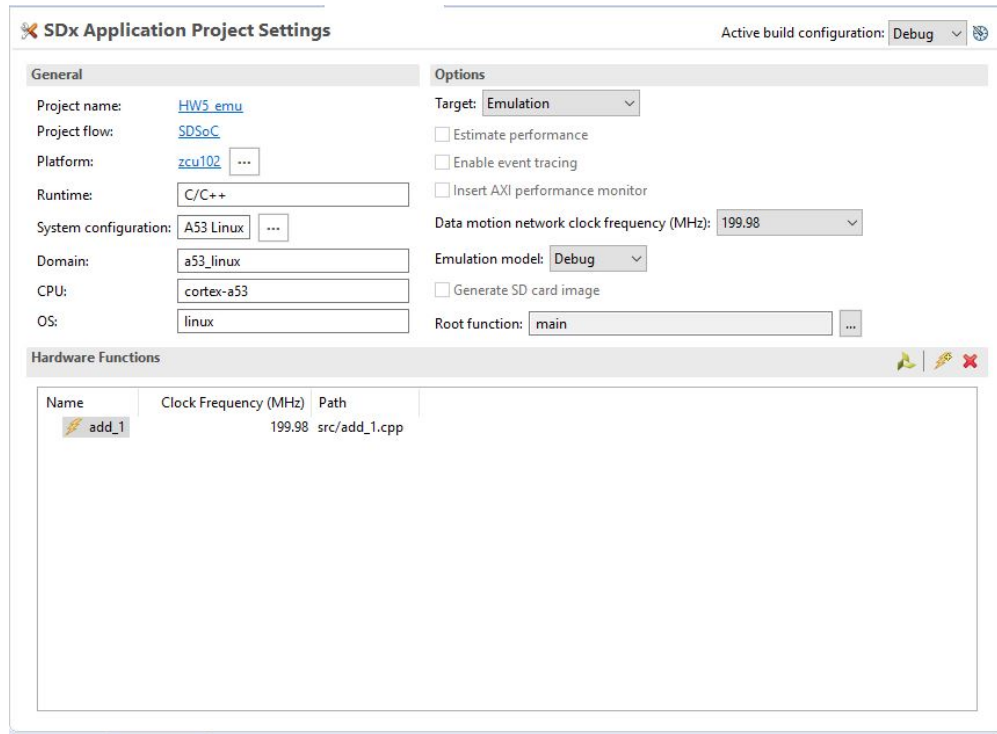

Figure 1: Emulation Configuration for ZCU102
- As Ultra96 emulation is not supported by SDx, we will use ZCU102 to do the emulation. Create another project with the same code as the previous question (Q 4a). Choose *ZCU102* as the platform. Choose *A53 Linux* as the System Configuration. Configure the project as shown in Figure 1.